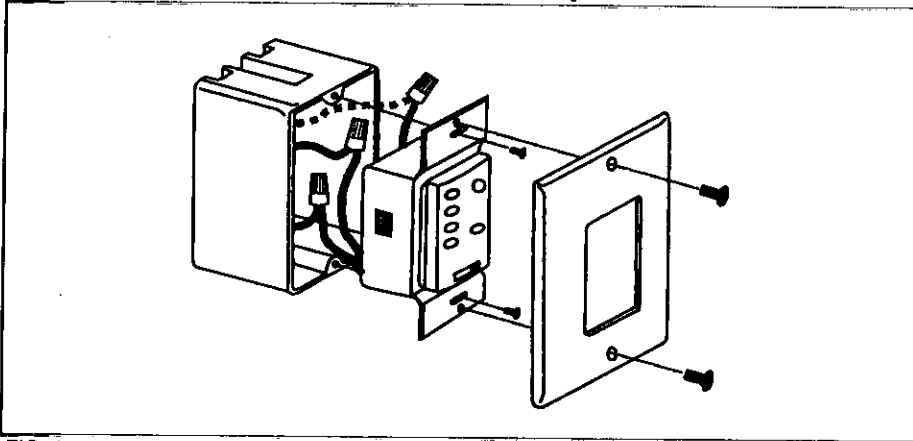

FIG. 15
Step 3. (Fig. 15). Carefully tuck the wire connections inside the junction box. Secure the wall transmitter with the two screws provided. Attach the decorator faceplate over the wall transmitter and secure with the two screws provided.